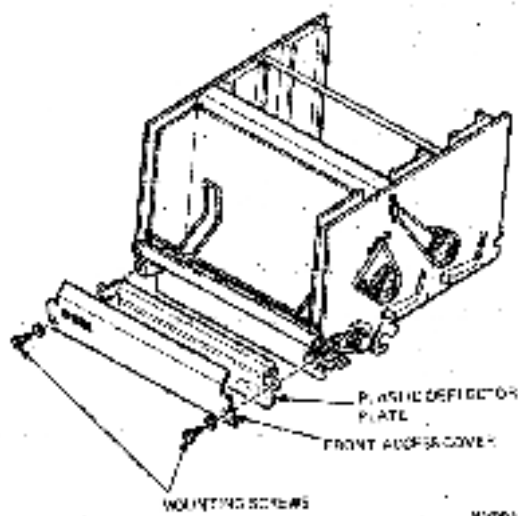

Figure 4-11 Front Access Cover Removal
2. Remove the two front access cover mounting screws and washers. Lift off the cover and deflector plate (Figure 4-11).